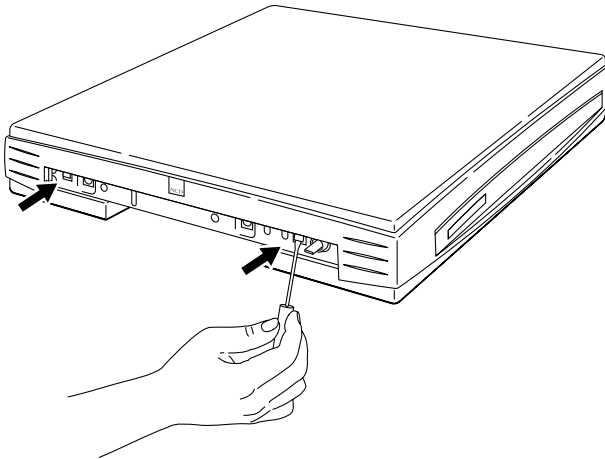

Figure 5-3 Releasing the Tabs
4. Use a small flat-blade screwdriver to release the two tabs located on the front of the NC, as shown in Figure 5-3.